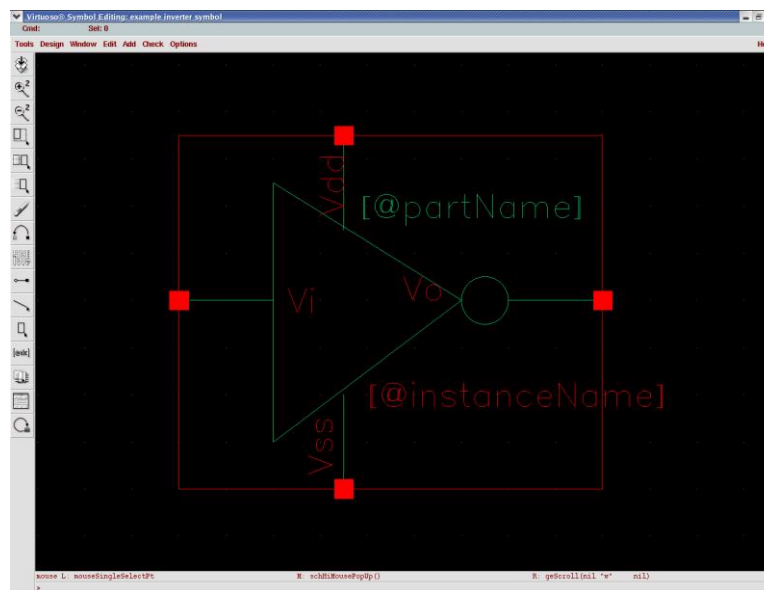
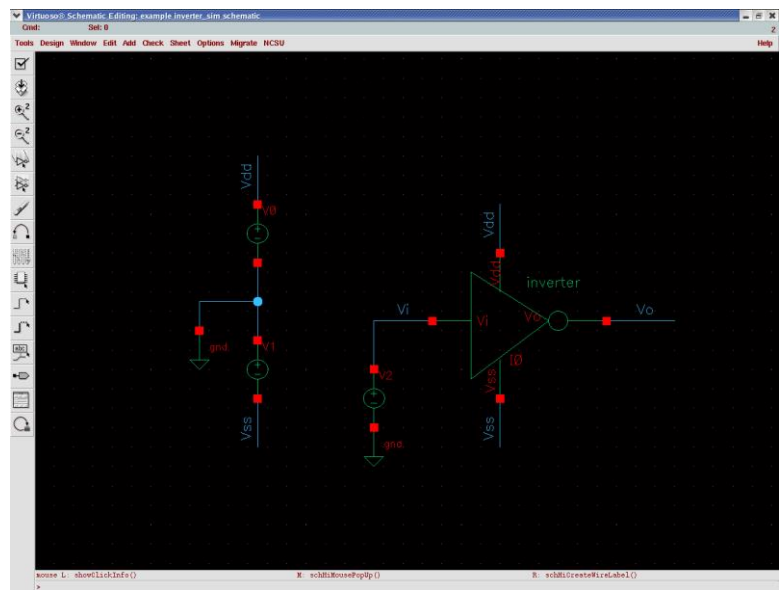

Figure 9. Symbol creation.
Figure 10. Instanting the created symbol in a new schematic.
b) Now, select **Design > Create Cellview > From cellview**. A window appears that by default creates a symbol view from the schematic view. Just click OK. A black window pops up with the symbol. It can be edited if desired (changing shape, pin distribution, etc.). Fig. 9 shows the resulting symbol (after some editing) and the actions associated to the left icons. Now you can use your design in a higher hierarchical schematic. For instance, in a new schematic window, where the inverter symbol could be instantiated including sources to have it ready to be simulated, as shown in Fig. 10. Note: the sources have to be included in the higher hierarchical schematic, so as to have the circuit in the inverter without any ideal components.